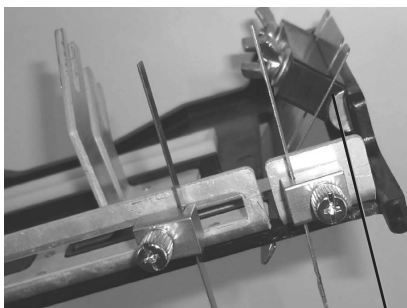

Fig. 1 Guide platen
2. Fit the blade in the blade holders (Fig. 1) on the front of the carriage and adjust to reflect the required shape, depth and width (example see Fig. 2). You can use shears to trim the blade to the required length if needed.
3. In case of angled cuts, set the angle and the depth of the lower guide platen to reflect your needs (see Fig. 1).